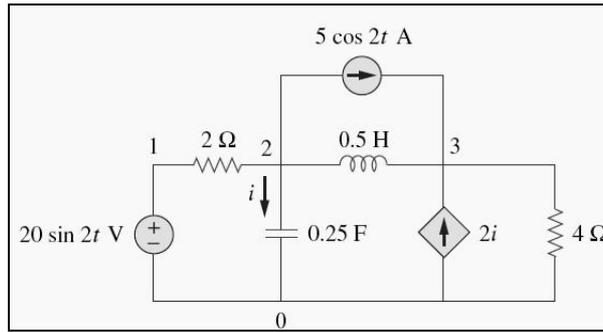
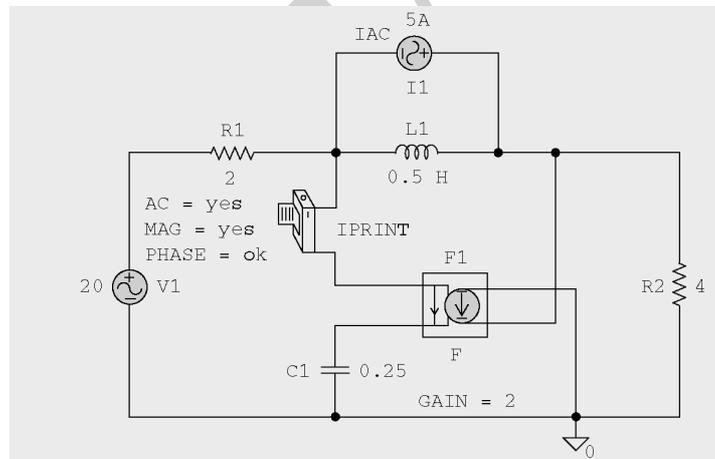

Figure: 2
Fig: 3
EXAMPLE 1: Find current  $i$  in the circuit in Fig. 2.
Recall that  $20 \sin 2t = 20 \cos(2t - 90^\circ)$  and that  $f = \omega/2\pi = 2/2\pi = 0.31831$ . The schematic is shown in Fig. 3. The attributes of V1 are set as  $ACMAG = 20$ ,  $ACPHASE = -90$ ; while the attributes of IAC are set as  $AC = 5$ . The current-controlled current source is connected in such a way as to conform with the original circuit in Fig.2; its gain is set equal to 2. The attributes of the pseudocomponent IPRINT are set as  $AC = \text{yes}$ ,  $MAG = \text{yes}$ ,  $PHASE = \text{ok}$ , **REAL =**, and **IMAG =**. Since this is a single-frequency ac analysis, we select **Analysis/ Setup/AC Sweep** and enter  $Total Pts = 1$ ,  $Start Freq = 0.31831$ , and  $Final Freq = 0.31831$ . We save the circuit and select **Analysis/Simulate** for simulation. The output file includes
**Example 2:** Find  $i_x(t)$  in the circuit in Fig.3.